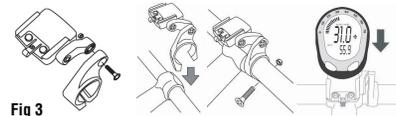

Fig 3
STEP 1: Select the proper size mounting ring for your handlebar. Two mounting bracket rings and three rubber shims are included to accommodate a variety of handlebar diameters. The smaller ring (already fitted to the bracket) fits standard 25.4mm—26.4mm diameter handlebars. The larger ring fits 31.8mm oversize bars. If necessary, remove the smaller ring from the bracket and replace it with the larger ring. See Figure 3.
STEP 2: Clamp the bracket to the handlebar and tighten in place. See Figure 3. Do not over-tighten the bracket. The bracket needs to be tightened only enough to prevent rotation on the handlebar during normal riding.
STEP 3: Attach the computer to the bracket. Slide the computer into the bracket from front to back. See Figure 3. You should hear an audible 'CLICK' indicating that the unit is